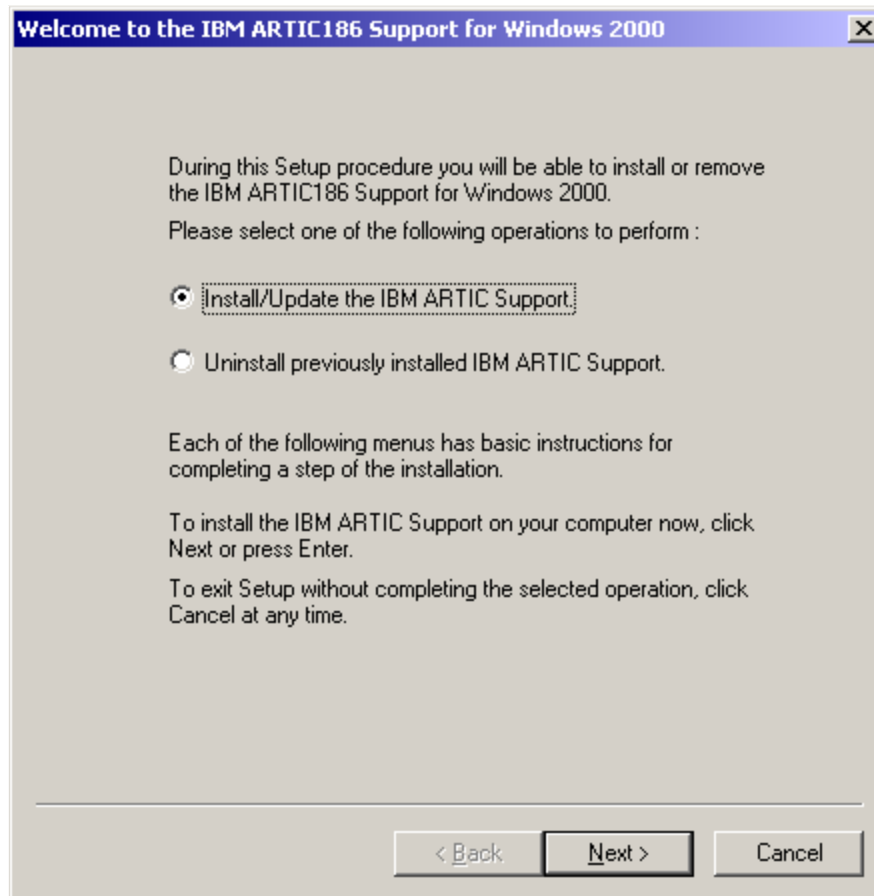

FIGURE 173. Welcome to the IBM ARTIC Support screen
5. The screen appears as in Figure 173: